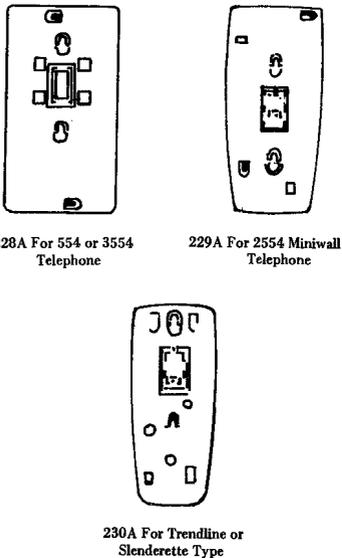

FIGURE 7. Adapters for Wall Telephones
**2.09 Wall Telephone Adapters (Figure 7):** Wall telephone adapters mount on the baseplate of standard wall-type telephone sets to adapt them for use with the miniature jack. All adapters have a self-aligning plug with four spade-tipped leads from each plug terminal to connect the plug to the telephone set circuitry. The adapters also have two keyholed slots which correspond to the mounting lugs on the jack cover assembly to permit installation or removal of the set.